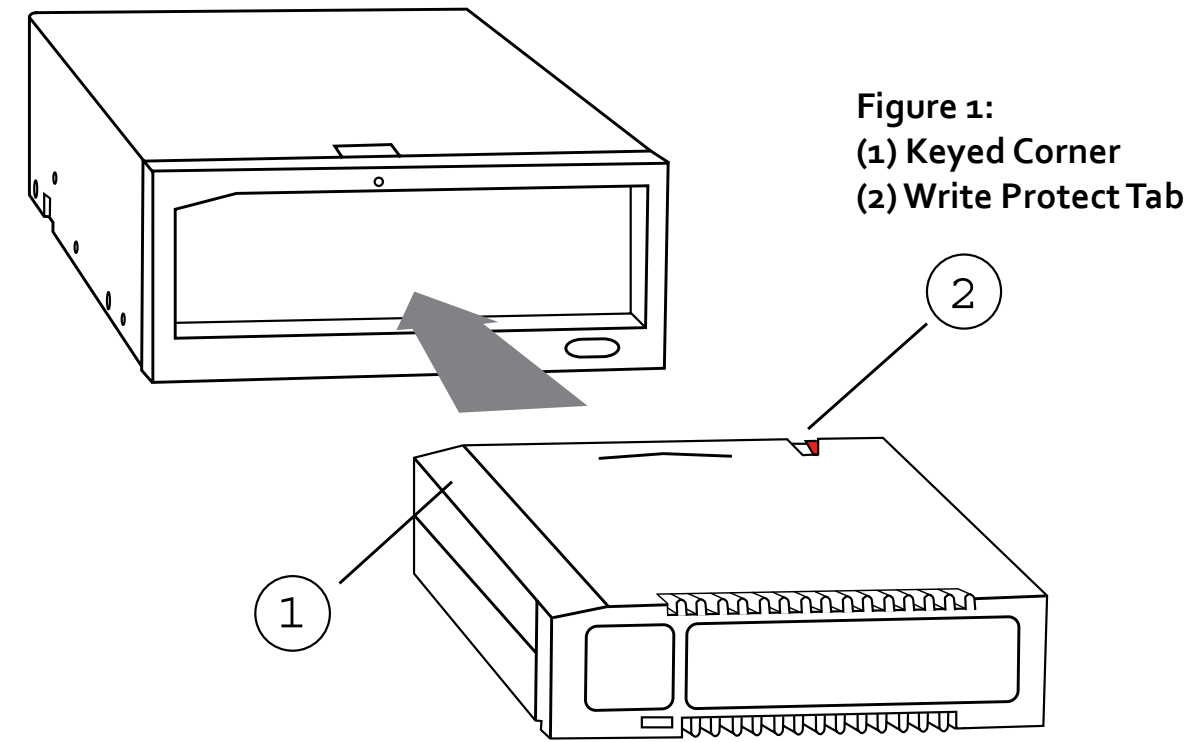

Figure 1:
- Never try to force a cartridge into the dock. If it is difficult to insert, check the orientation and ensure correct alignment using the keyed corner as a guide (see Figure 1).
The RDX dock in each T5R has a cartridge slot with a hinged protective door, and a power indicator that also functions as a cartridge eject button. Cartridges only fit in one orientation (see Figure 1).